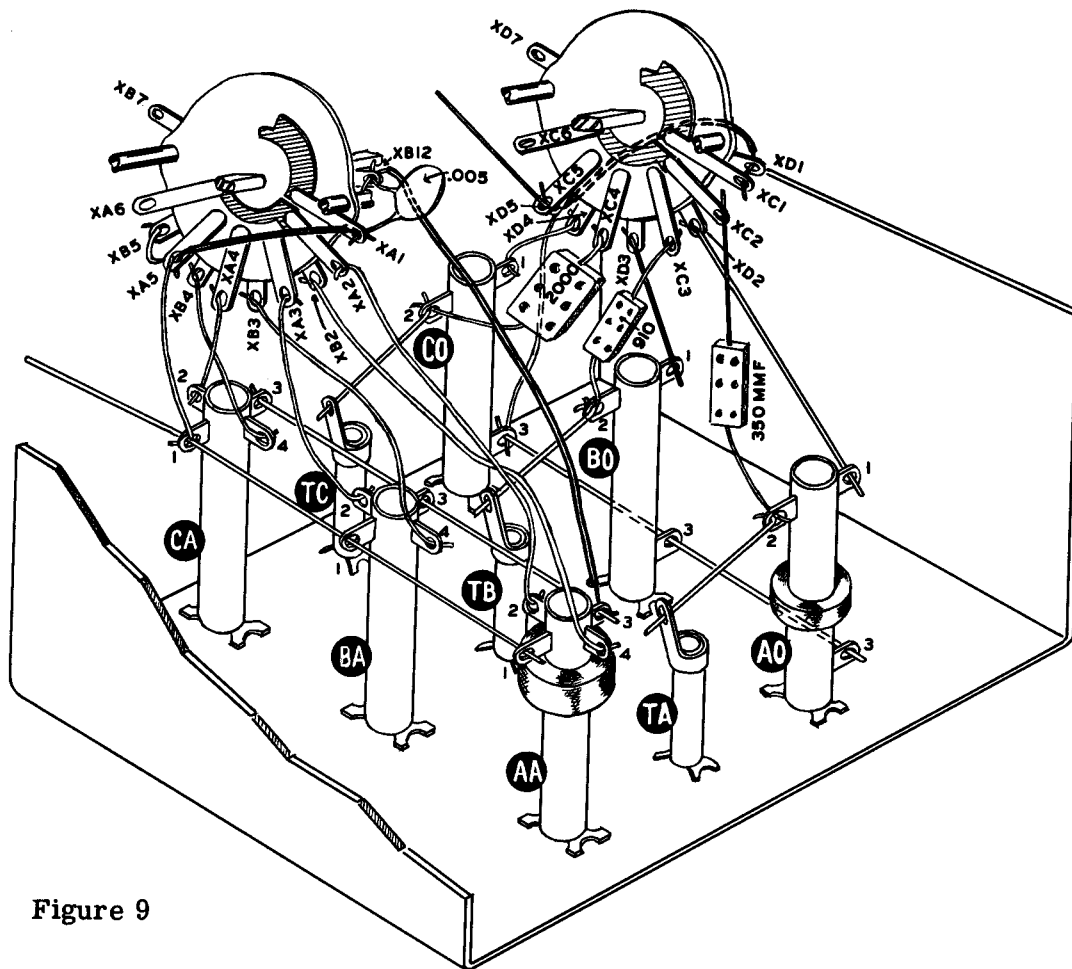

Figure 9
- ( ) Connect a bare wire from TA (S) to AO2 (NS).
- ( ) Connect a bare wire from TB (S) to BO2 (NS).
- ( ) Connect a bare wire from TC (S) to CO2 (NS).
- ( ) Cut one lead of a 350  $\mu\mu\text{f}$  mica capacitor (orange-green-brown) to 5/8". Connect to AO2 (S). Leave the other end free.
- ( ) Cut one lead of a 910  $\mu\mu\text{f}$  mica capacitor (white-brown-brown) to 5/8". Connect to BO2 (S). Leave the other end free.
- ( ) Cut one lead of a 2000  $\mu\mu\text{f}$  mica capacitor (red-black-red) to 5/8". Connect to CO2 (S). Leave the other end free. Use care when connecting the lead to the coil terminal to prevent breakage due to the heavier lead wire used.
- ( ) Mount the bandswitch X as shown. Do not tighten securely as the nut will be removed later when mounting the coil and switch assembly in the receiver. See Figure 9.
NOTE: Contact lugs on the front face of the switch wafer nearest the panel are numbered XA1, XA2 etc. Contact lugs on the rear face of this wafer have XB numbers. Lugs on the rear wafer have XC and XD numbers. See Figure 9 for detailed numbering.